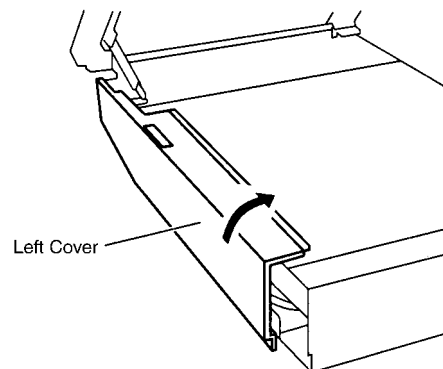

Fig. 4-5
- 5) Centralize the axis (fulcrum) of the lever and turn Left Cover toward the right, as shown in Fig. 4-5. While turning, bring it down toward the inside (toward the left).